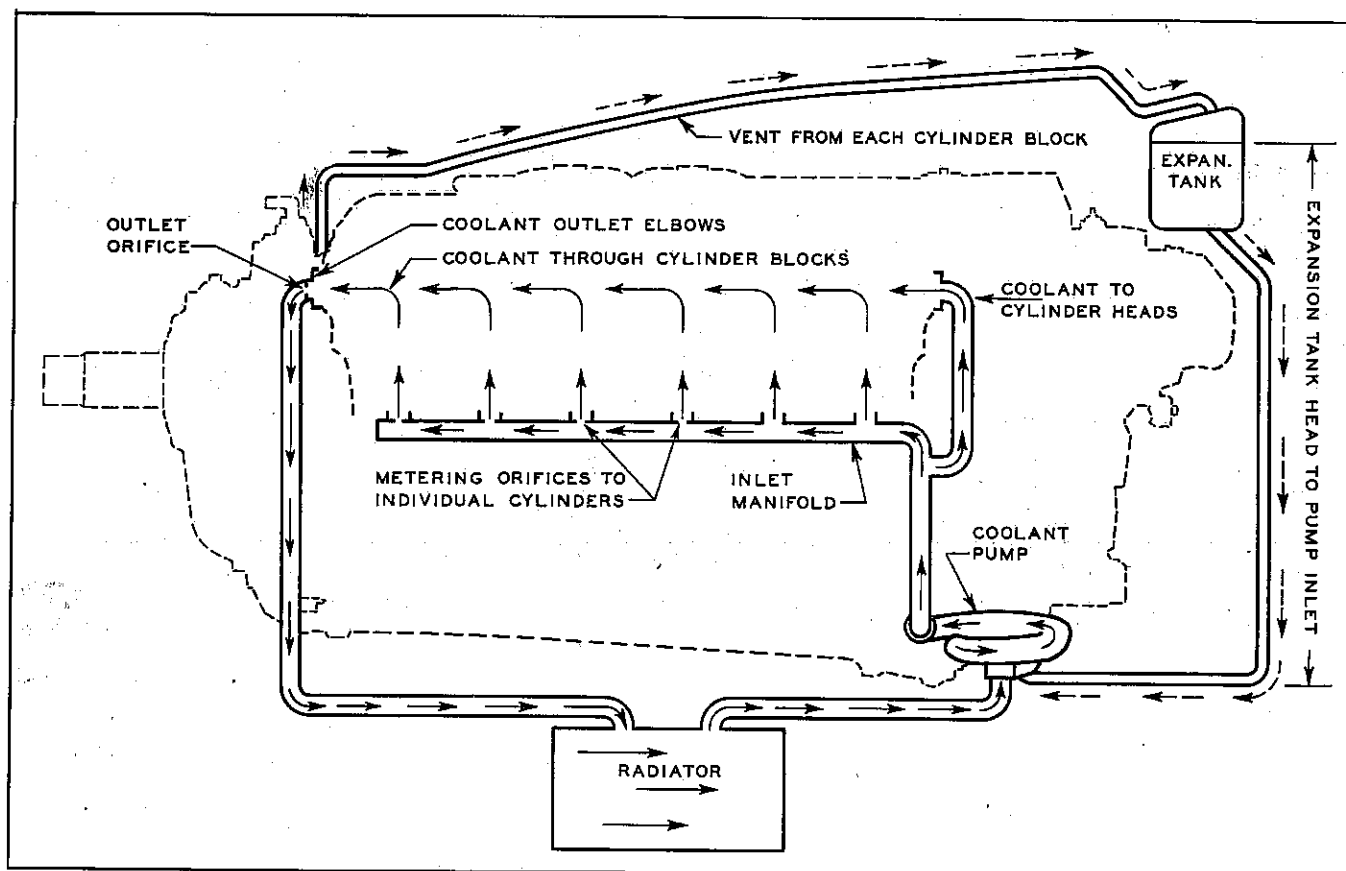

Figure 19—Typical Engine Cooling System.
(1) A centrifugal coolant pump located on the bottom of the accessories housing supplies coolant to each cylinder block at two inlets, one located at the coolant jacket and the other at the rear of the cylinder head. The outlet scroll of the pump terminates in a tee with two flanged ends, and is connected by pipes to the dual inlets of each cylinder block. The coolant is admitted to the bottom of the cylinder block through an inlet manifold which is cast the full length of each jacket. These manifolds have an orifice at each cylinder barrel which meters the coolant flow. The inlet at the rear of the cylinder head provides a direct rapid flow over the combustion chambers. The Coolant System Diagram, Figure 19, illustrates the cooling principle used on these engines.